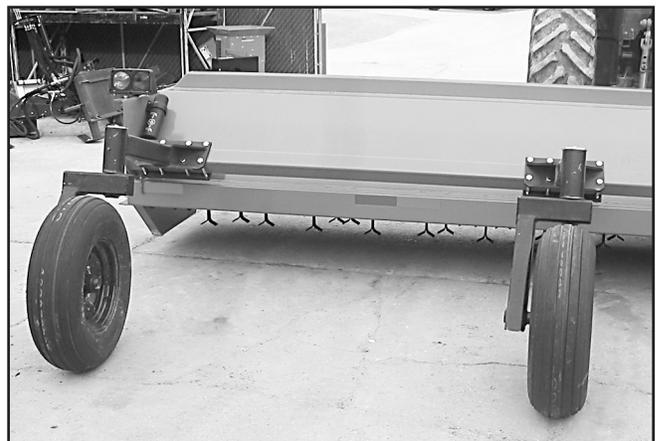

Figure 41. Wheel Assembly Installed
4. Install the wheel assembly to the rockshaft (Figure 41). **If equipped with caster wheels, verify that there is enough clearance for casters to rotate without hitting each other.** Failure to do so will result in tire damage.